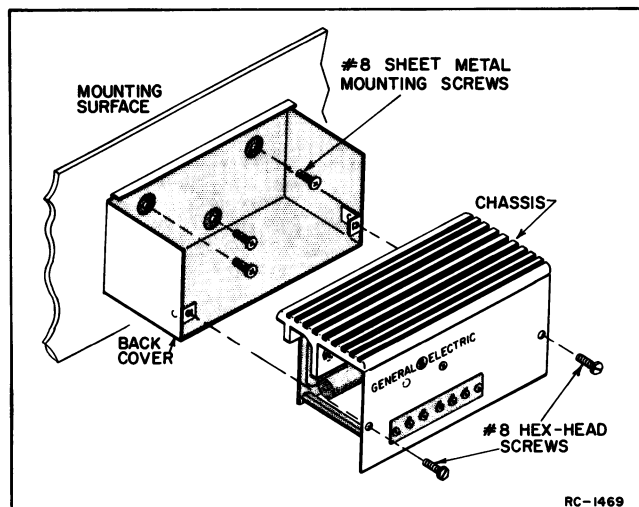

Figure 1 - Mounting the Charger
2. Remove the two hex-head screws in the front panel and slide off the back cover (Figure 1).